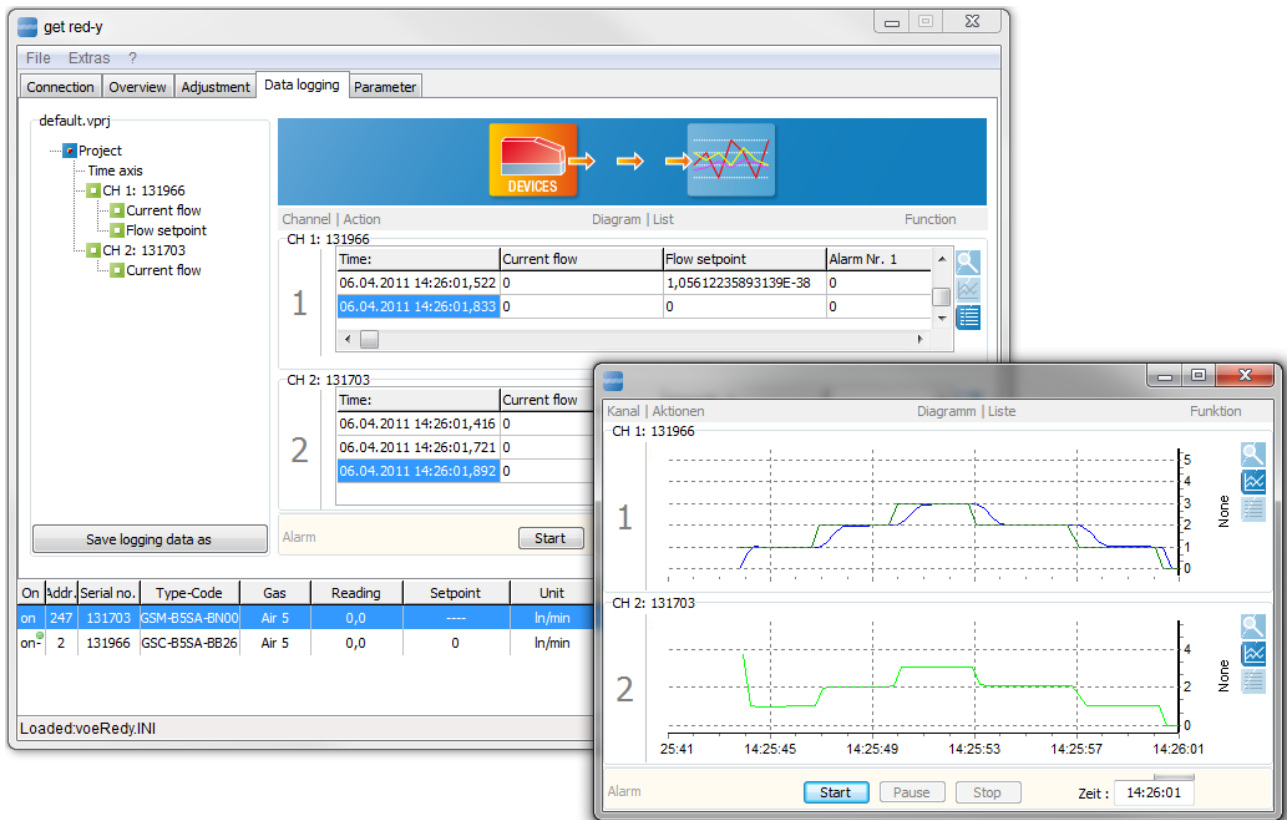

Figure 43: Representation of the measured values in tabular and graphic form
-  The data of this channel is displayed in a separate window (See Figure 43).
-  The data is represented in tabular form (see Figure 43).